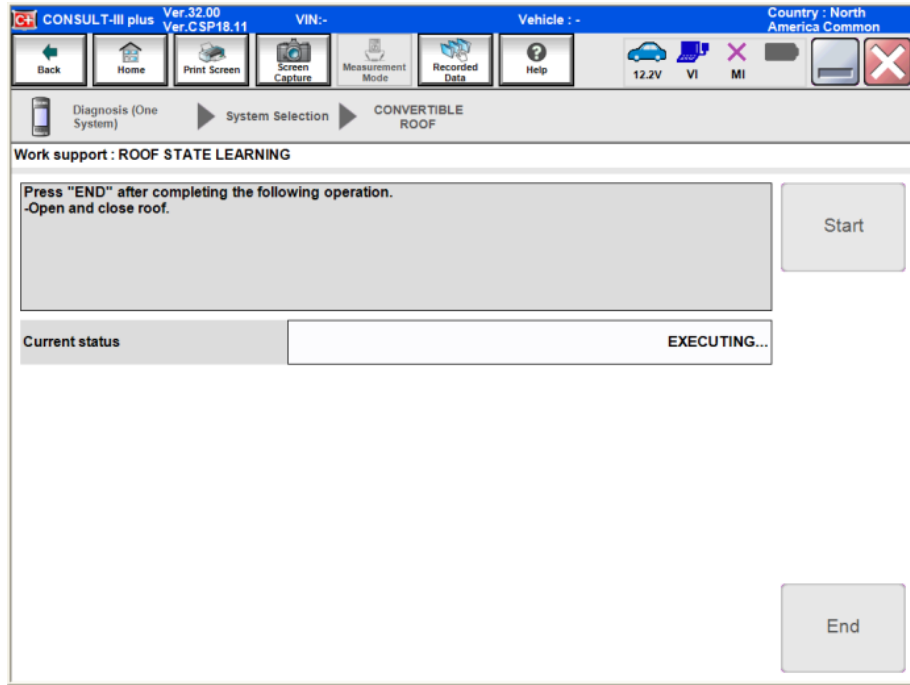

Figure 12
19. When the screen in Figure 12 appears, press and hold down the retractable hard top operating switch (roof switch) in the vehicle to fully open the roof.